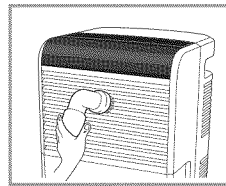

Fig.4
4. FRONT GRILL can be cleaned using a vacuum cleaner or a soft brush to remove dust. (Fig.4)